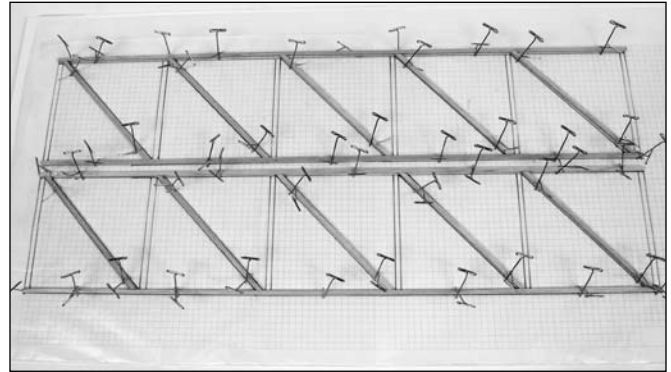

Figure 34 – Diagonal braces glued and pinned
- Repeat this procedure for the rest of the diagonal braces (Figure 34).